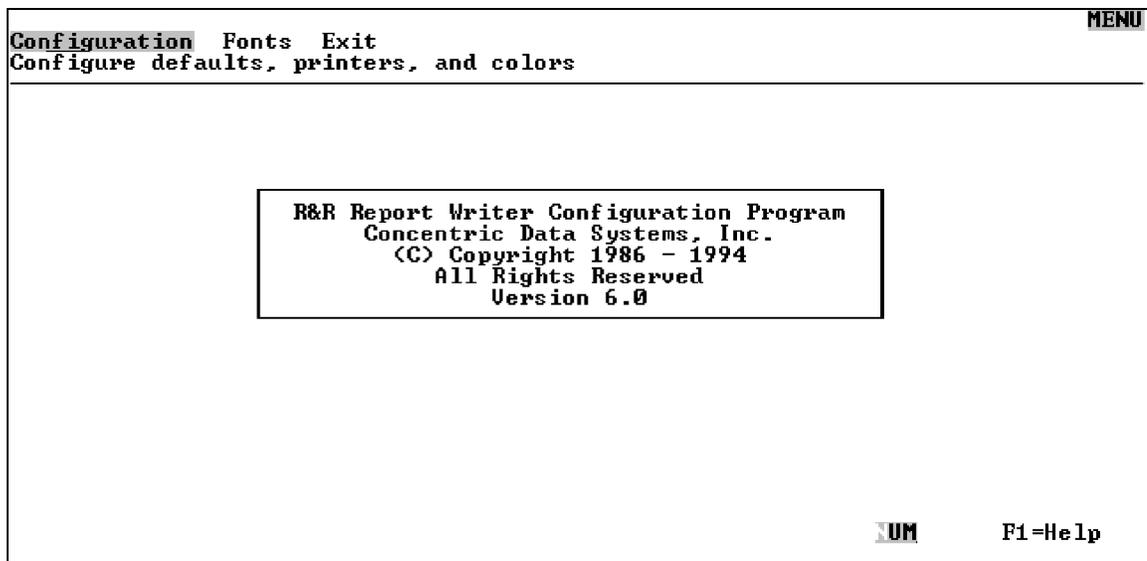

Figure 5-117. The R&R Report Writer Configuration Program.
2. Type RRSETUP and press <Enter>. The R&R Report Writer Configuration Program appears on your screen as shown in Figure 5-117.